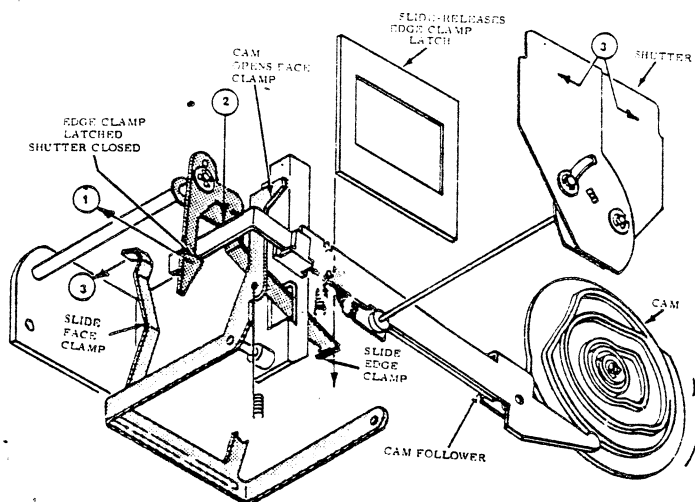

Figure 1-7. Shutter and Slide Clamp Operation
6. SHUTTER AND SLIDE CLAMPS (Figure 1-7)